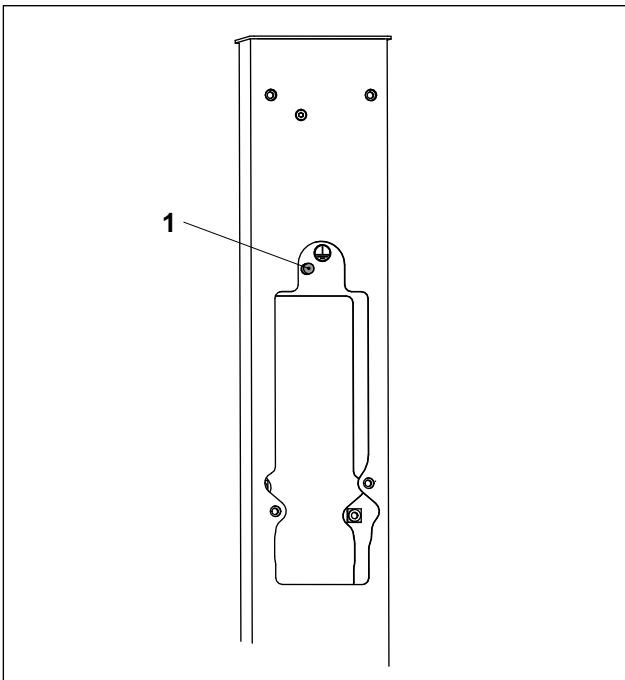

Fig. 1 Protective equipotential bonding connection
- The protective equipotential bonding in accordance with national regulations such as IEC 60364-4-41; VDE 0100-410 is established via a labeled connecting point (Fig. 1/1) in the column for a suitable ground conductor. The operator must establish the ground connection in accordance with national regulations.